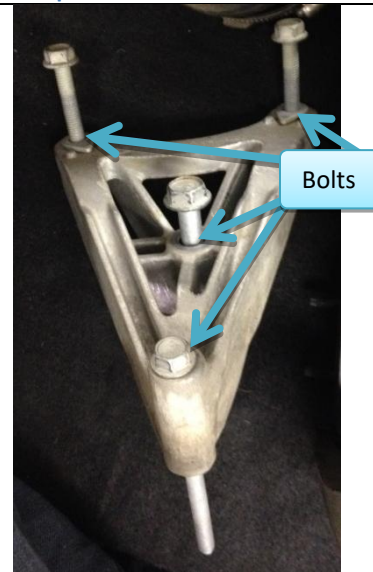

Figure 28: Alternator support bracket.
17.1. Remove four bolts on bracket (Figure 28)